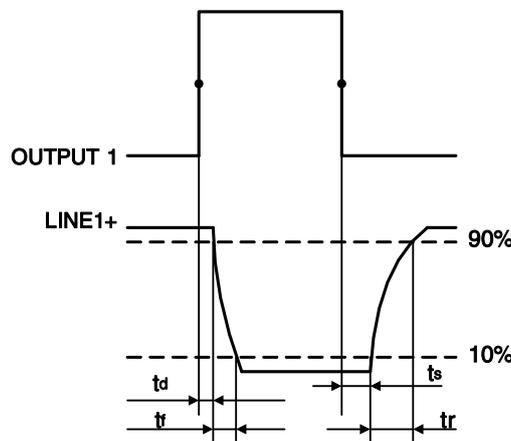

Figure 7-6 Parameter of opto-isolated output circuit
- Rising time delay = t_d+t_f : $<50\mu s$ ($0^\circ C\sim 45^\circ C$) (parameter description is shown in Figure 7-6)
- Falling time delay = t_s+t_r : $<50\mu s$ ($0^\circ C\sim 45^\circ C$) (parameter description is shown in Figure 7-6)
- Rising time delay = t_f+t_d : $<20\mu\text{s}$ ($0^{\circ}\text{C}\sim 45^{\circ}\text{C}$) (parameter description as shown in Figure 7-6)
- Falling time delay = t_r+t_s : $<20\mu\text{s}$ ($0^{\circ}\text{C}\sim 45^{\circ}\text{C}$) (parameter description as shown in Figure 7-6)